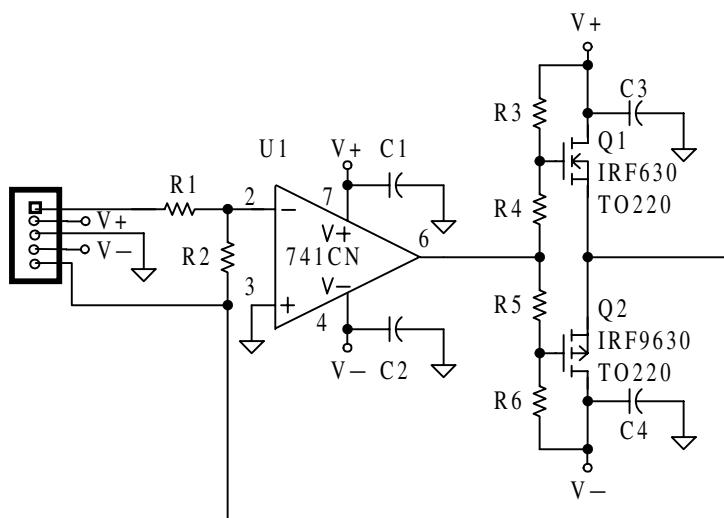

Figure 2-1 Power amplifier to be laid out
Define the mechanical and thermal elements needed to build the circuit in Figure 2-1 on a solderless connection breadboard.
A standard solderless connection breadboard is to be used. Although the circuit in Figure 2-1 fits on a small board, future development indicates that there are other parts to be added. So a larger board should be chosen.
Look at Figure 2-1 again. It is reasonable to measure at U1 pin 6, the junction of R3-R4, and the junction of R5-R6. So, when it comes time to place parts, be sure to make these places easily accessible from the front edge of the breadboard. Similarly, you may need to change any of the resistors, so keep R1 and R2 convenient as well.
3. Place the SIP 5 connector in the center of the 3" edge, aligned with the mounting holes. Pin-signal assignment is defined in Figure 2-1.